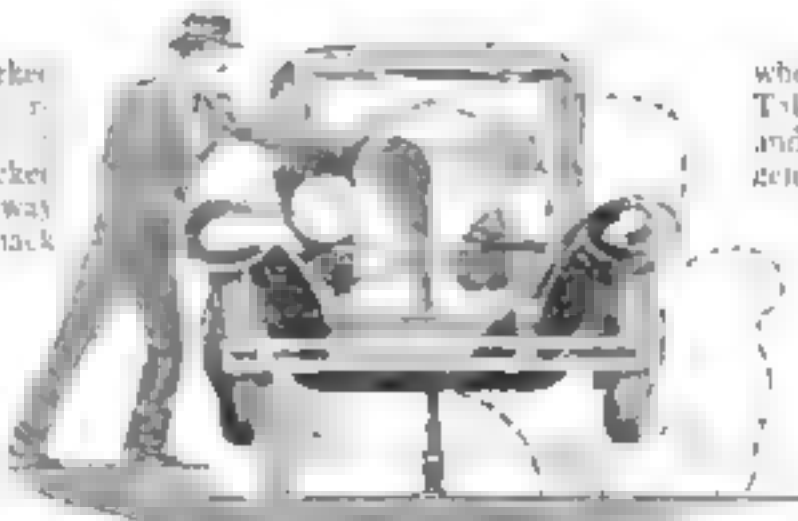

Fig. 1. Shows how a jack can be used to get a car out of a tight place when blocked by autos.
**W**HEN you leave your car parked at the curb and if while you are absent other cars are parked in front and behind yours, you are blocked in if the other cars are locked. A way out is illustrated in Fig. 1. Put your jack under the center of the front axle and work the jack as high as it will go. Then push the car sideways until it falls off the jack. This will move the front of the car quite a distance out into the street. Repeat the process till you can drive away.